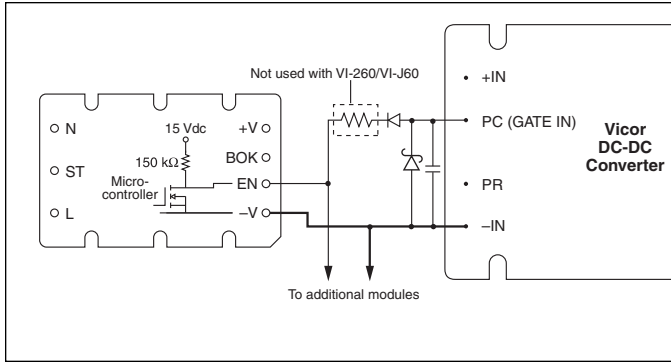

Figure 7-4 — Enable (EN) function
Enable (EN) Pin. (Figure 7-4) The Enable pin must be connected to the PC or GATE IN pin of all converter modules to disable the converters during power up. Otherwise, the converters would attempt to start while the hold-up